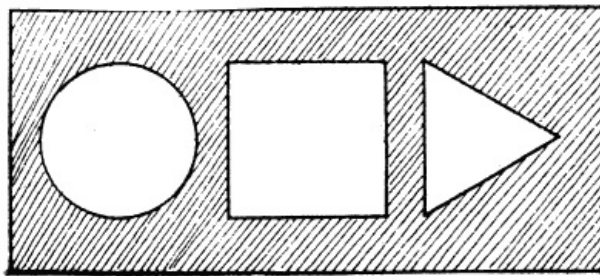

FIG. 58.
*The Three-hole Puzzle.*—Really the puzzle consists of a piece of thin wood with three holes cut in it. These three holes are respectively circular, square, and triangular (Fig. 58). The problem is to cut one block of wood which will pass through each hole and at the same time fit the hole exactly.